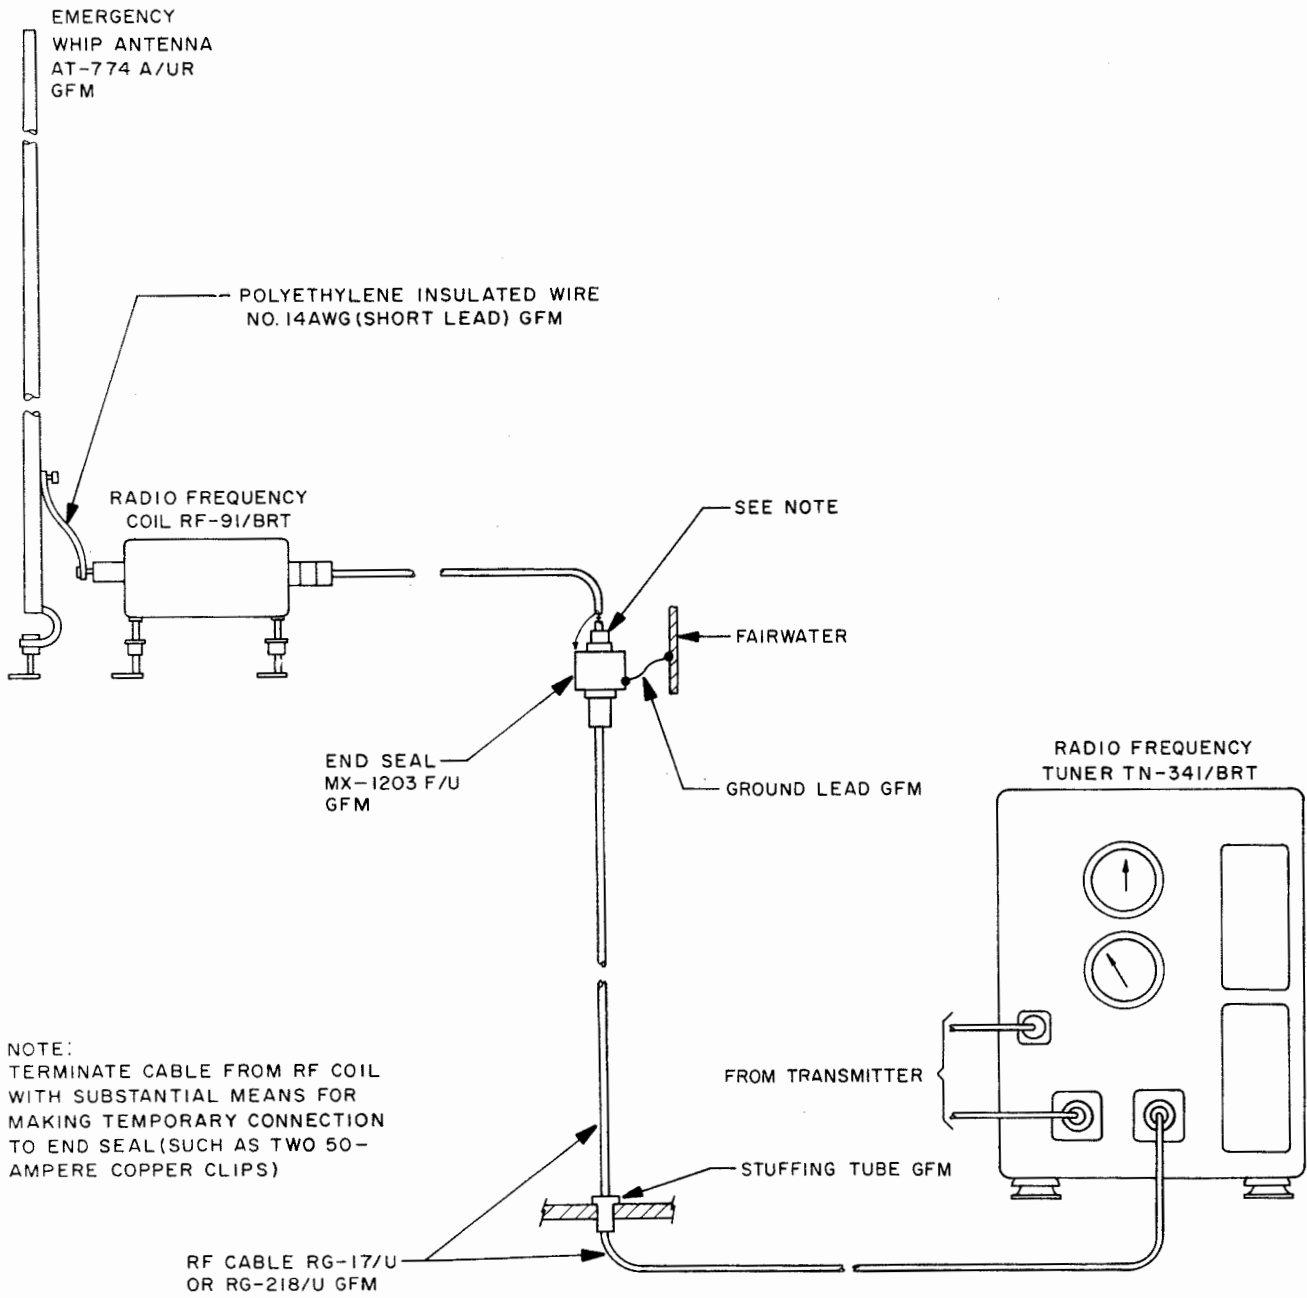

Figure 1-1. Antenna Tuning Group AN/BRA-6
This technical manual describes the procedures for the installation, operation, and maintenance of Antenna Tuning Group AN/BRA-6 (see figure 1-1).
b. RADIO FREQUENCY COIL RF-91/BRT MOUNTING. (See figures 1-1 and 2-3.) - Before installing the rf coil, adjust it according to the instructions given in paragraph 2-5b. At frequencies
c. INTERCONNECTING CABLE INSTALLATION. (See figures 1-1 and 3-2.) Disconnect the transmitter output cable from its usual antenna and connect it to the RF IN jack on the rf tuner. If necessary, install a UG-154/U connector to the transmitter cable to permit connection to the rf tuner. Figure 2-4 gives assembly instructions for this connector.